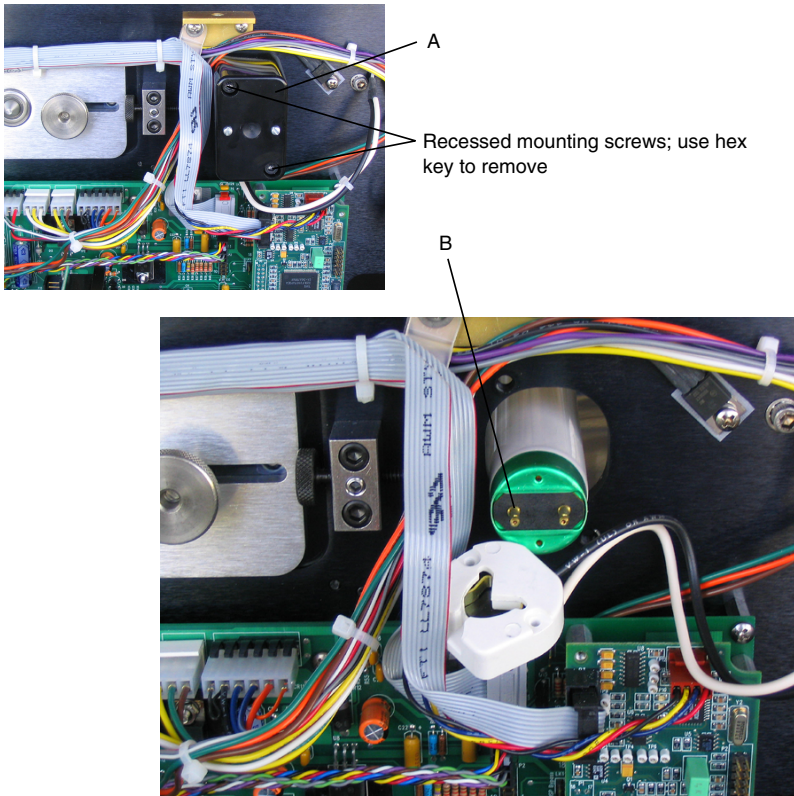

Figure 3. Area meter with fluorescent tube connector housing removed. (A) fluorescent tube connector housing. (B) fluorescent tube with exposed pins.
- Remove the rear tube connector housing by loosening the two recessed mounting screws (Figure 3).
- Remove the rear tube connector by loosening the two recessed mounting screws (Figure 3).